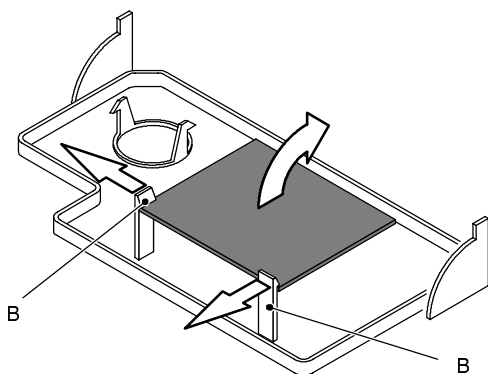

fig. 43
- 3 delicately flex the hooks B in the directions indicated (fig. 43) in order to release the circuit from the panel